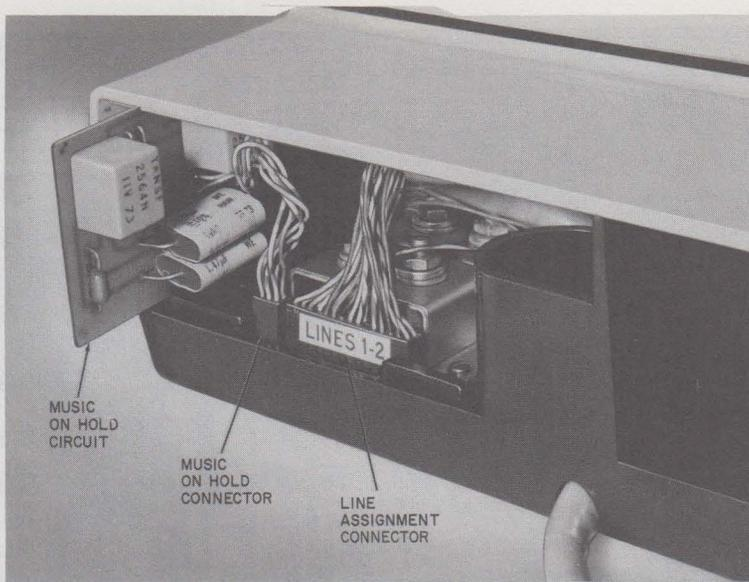

Fig. 6—Line Assignment Connector and Music-on-Hold Board
- (2) Remove line assignment connector (Fig. 6) by pulling straight up until connector clears pins on circuit board. **Take care not to bend pins on circuit board.**
- (3) Rotate connector 180 degrees so that side labeled lines 3 and 4 can be seen.
- (4) Reinsert connector so that outside row of holes (toward rear of set) mate with pins on board.
- (5) Replace transformer and heat sink assembly.
- (6) Plug in power cord.
- (1) Remove transformer as covered in 3.06 (1).
- (2) Insert music-on-hold circuit board vertically in slots provided in upper and lower housings (Fig. 6).
- (3) Plug in connector from circuit board to the pins provided as shown in Fig. 6. The connector may be plugged in either way.
- (4) Replace transformer and heat sink assembly.
- (5) Plug in power cord.